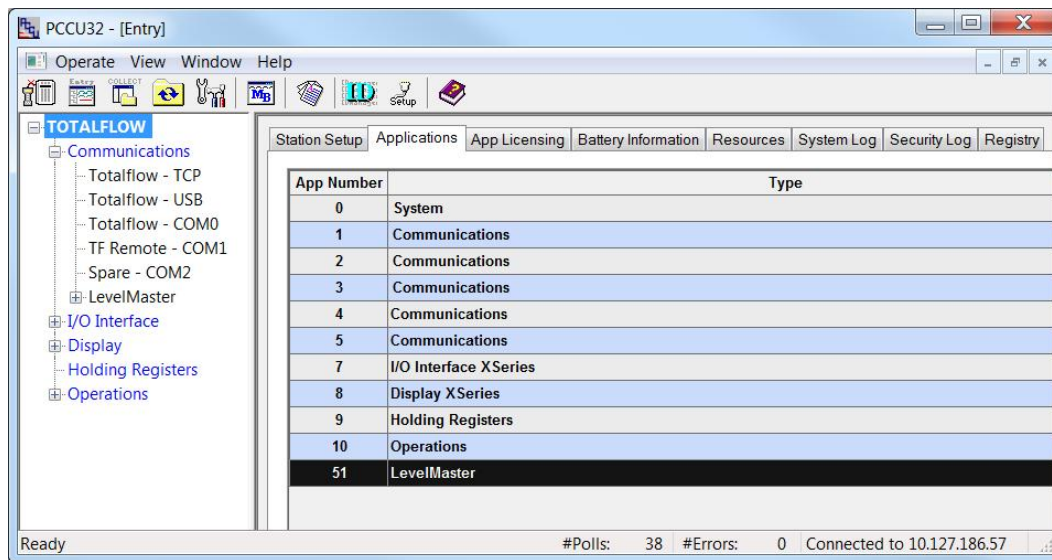

Figure 46: Activating the LevelMaster application
16. Select **OK**, when prompted. The LevelMaster application displays in the list and is shown in the navigation tree (Figure 46).